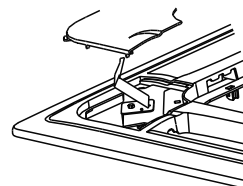

fig.4-14
Wrench off the bolts, loose the rope of the installation covers, and remove them. (Refer to Fig.4-14)
- 5) Regulate the panel in the direction of the arrow in fig.4-14 d slightly to fit the panel's center to the center of the ceiling's opening. Guarantee that hooks of four corners are fixed well.